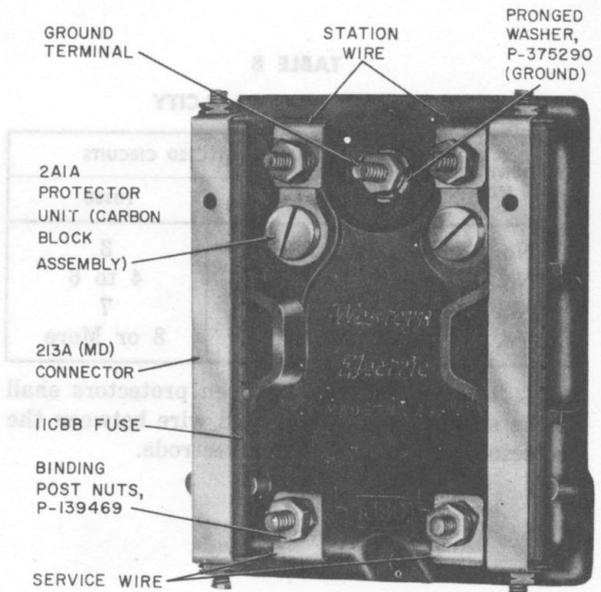

Fig. 7—106CA (MD) Protector
**2.04** The 106CA (MD) protector (Fig. 7) is a 106C fused protector for one pair of wires, converted for fuseless operation by strapping out the 11CBB fuses with No. 213A (MD) connectors. It is not